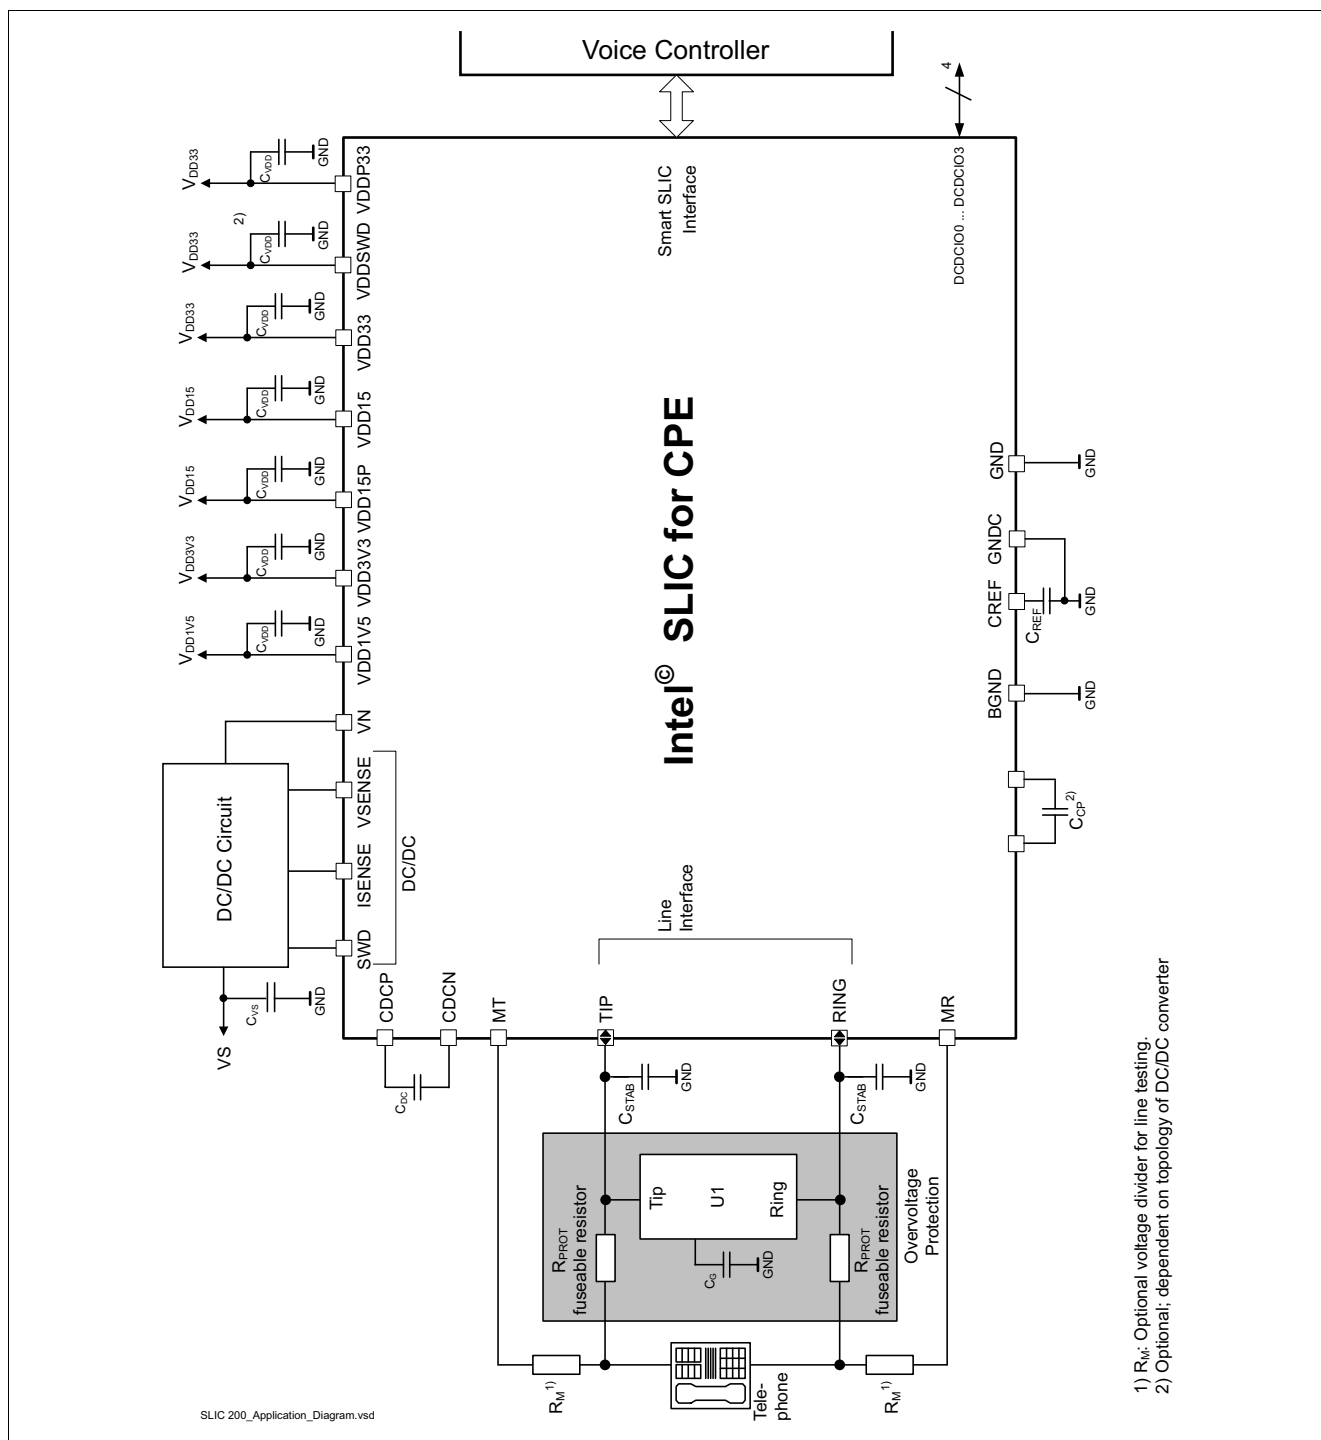
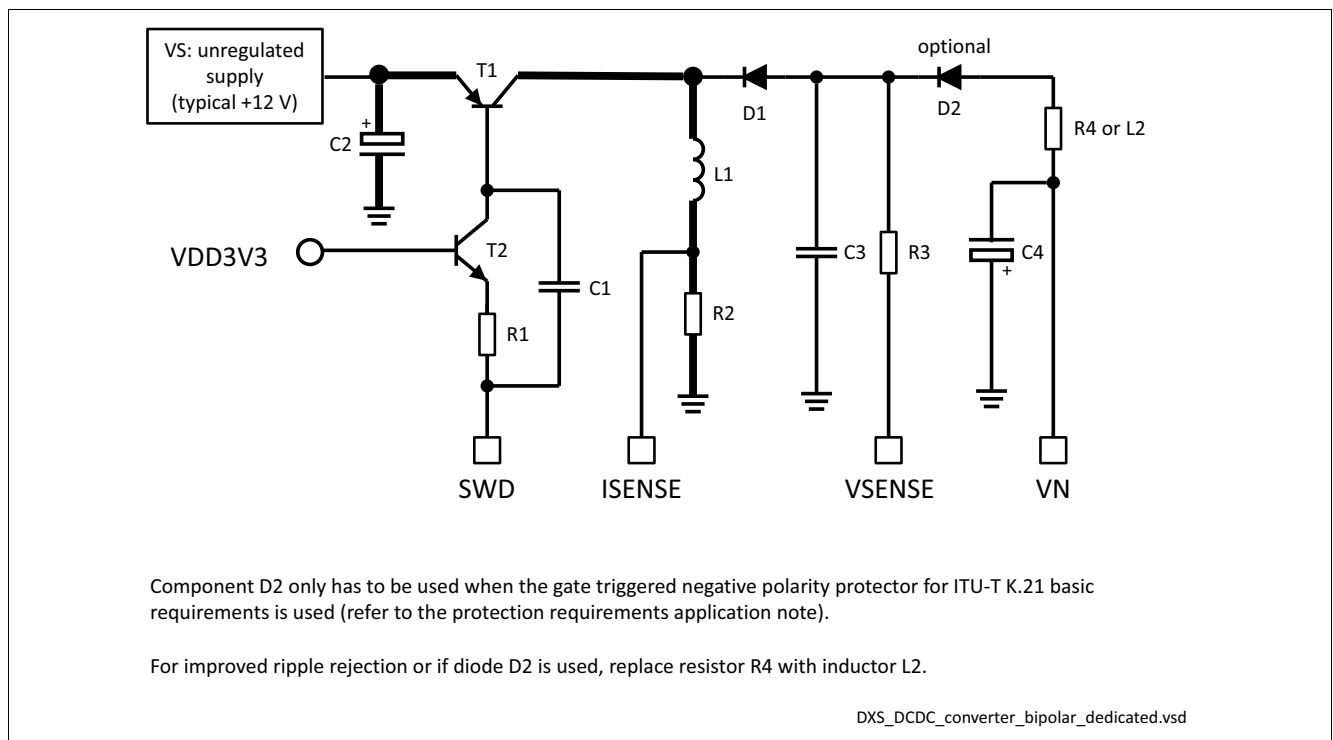

Figure 7 Application Circuit for FXS Operation (Channel A)
Figure 8 Inverting Buck-Boost Converter Circuit for 12 V (IBB12)
Note: As channels “A” and “B” are identical in this dual channel device, channel independent pin names (for example “TIP” instead of “TIPA / TIPB”) are used in Figure 7.
The circuit shown in **Figure 7** is equipped with a DC/DC converter based on a pnp transistor switch, as shown in **Figure 8**. This is the recommended default circuit.
The application circuit in Figure 7 can be equipped with a DC/DC converter as described in the two example DC/DC converter circuits presented in this chapter:
- **Inverting buck-boost DC/DC converter with input voltage +12 V (IBB12)**, see Figure 8
SLC220 External Components incl. Protection, see Figure 7
Inverting Buck-Boost Converter Circuit T0.2 for 12 V, see Figure 8